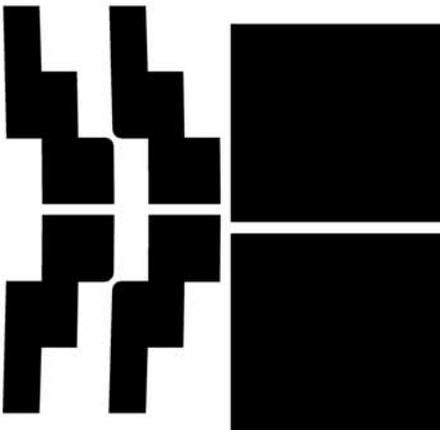
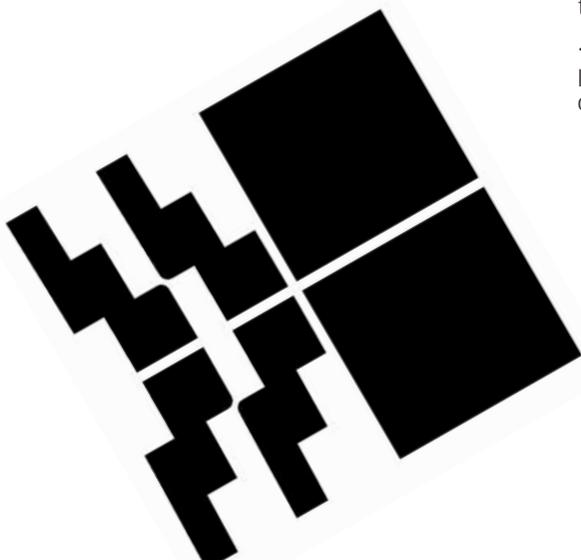

Fig. 2 - Targets not aligned for oblique astigmatism
Fig. 3 Alignment in oblique astigmatism
- 7 - Should the median lines not align (in the case of oblique astigmatism – see Fig. 2), rotate the target-holder arc until they coincide (see Fig. 3).